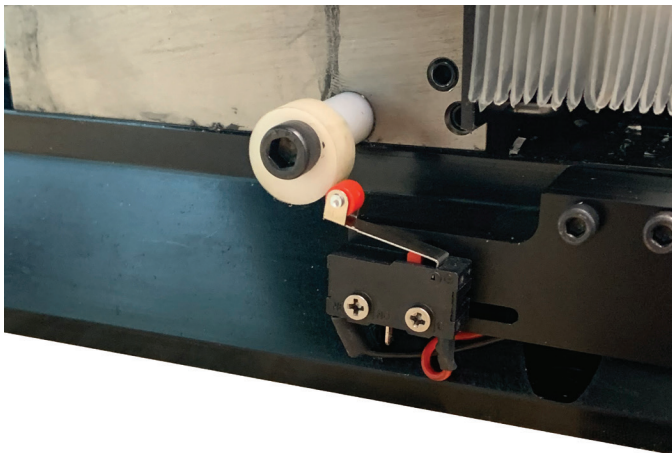

FIGURE 7
1. When you install the Y-axis limit switch, adjust the eccentric so it looks like the picture in Figure 7.